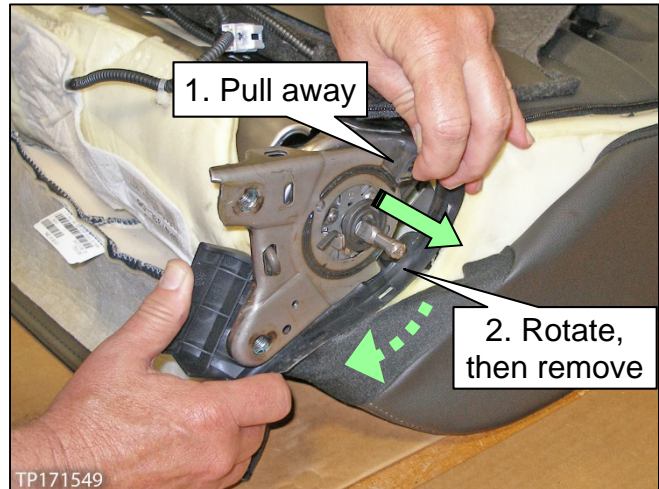

Figure 26
- a. Carefully pull the finisher end away from the seatback as shown in Figure 26.
- b. Rotate the finisher rearward (as shown in Figure 26), and then remove it from the seatback.